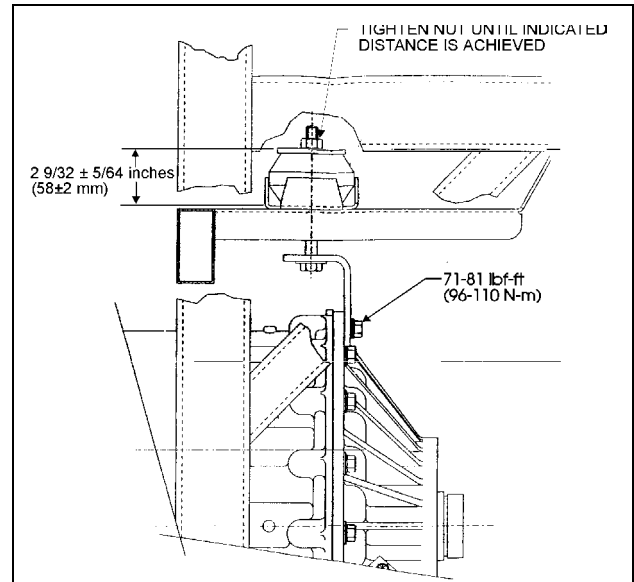

FIGURE 8: TRANSMISSION BRACKET
10. If the vehicle is equipped with a retarder; install the bracket on the transmission and tighten the bolt to 71-81 lbf•ft (96-110 N•m). Install the transmission rubber mount between the rubber support and the frame with a bolt, nut and washer. Tighten the nut until the tolerance of  $2 \frac{9}{32} \pm \frac{5}{64}$  inches ( $58 \pm 2$  mm) is met (Fig. 8).